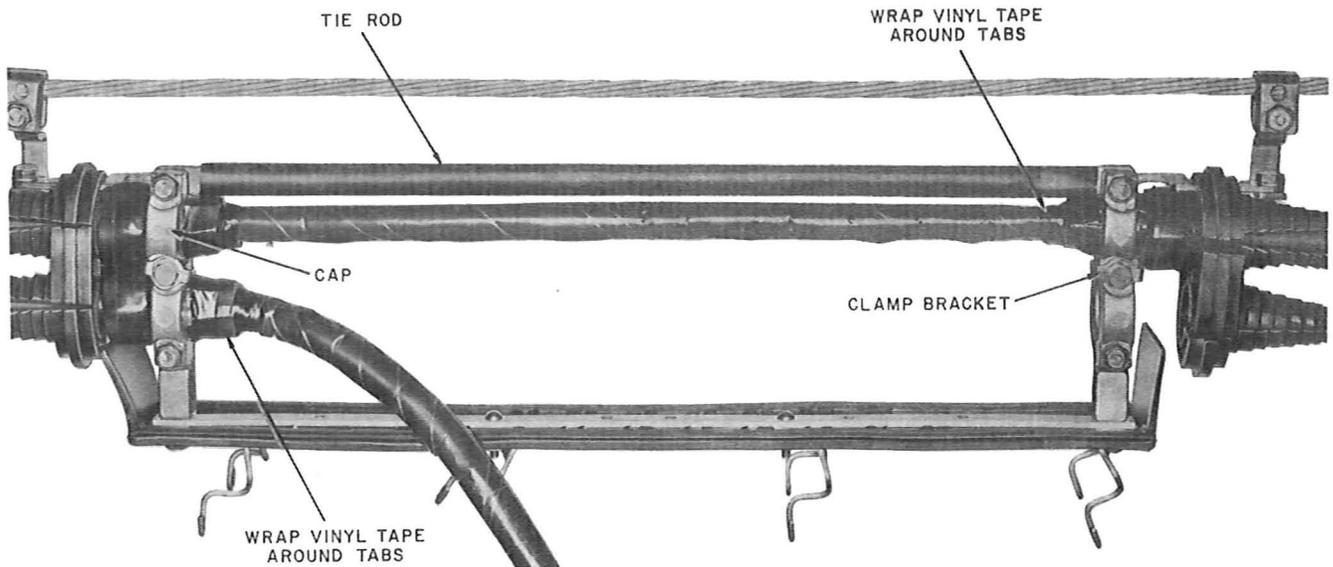

Fig. 35—Assembly of Base
that the inner sheath clamps on the cables align with the clamp brackets and install the caps, tie rod, and clamp bracket as shown in Fig. 35 or 36
**6.12** Remove the temporary bonding strap and wrap vinyl tape around tabs (Fig. 35).